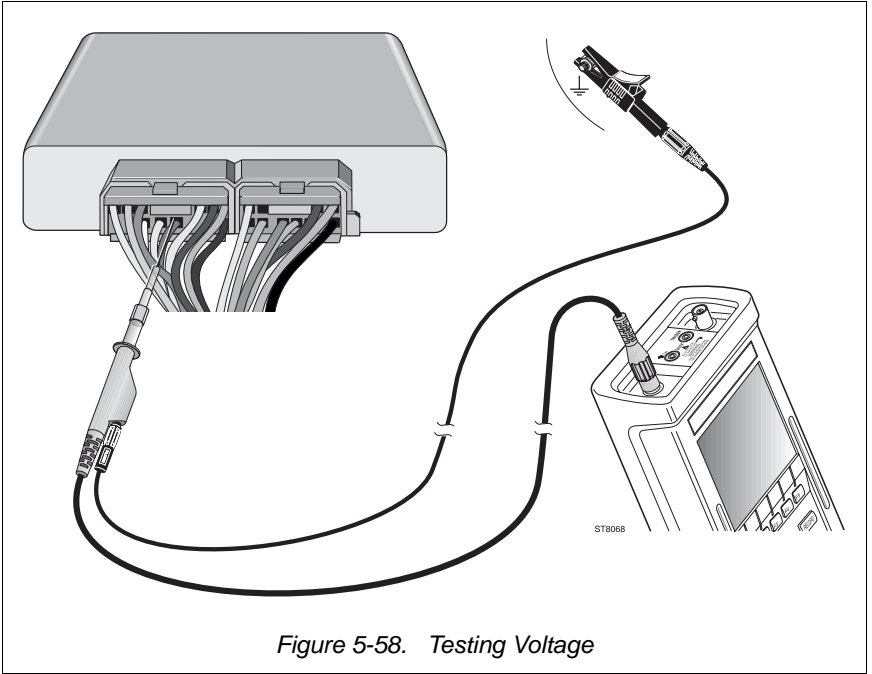

Figure 5-58. Testing Voltage
①
②
③
- ④ Connect the test leads as displayed by the test tool's Connection Help and shown in Figure 5-58.
⑤  Starts the Voltage test.